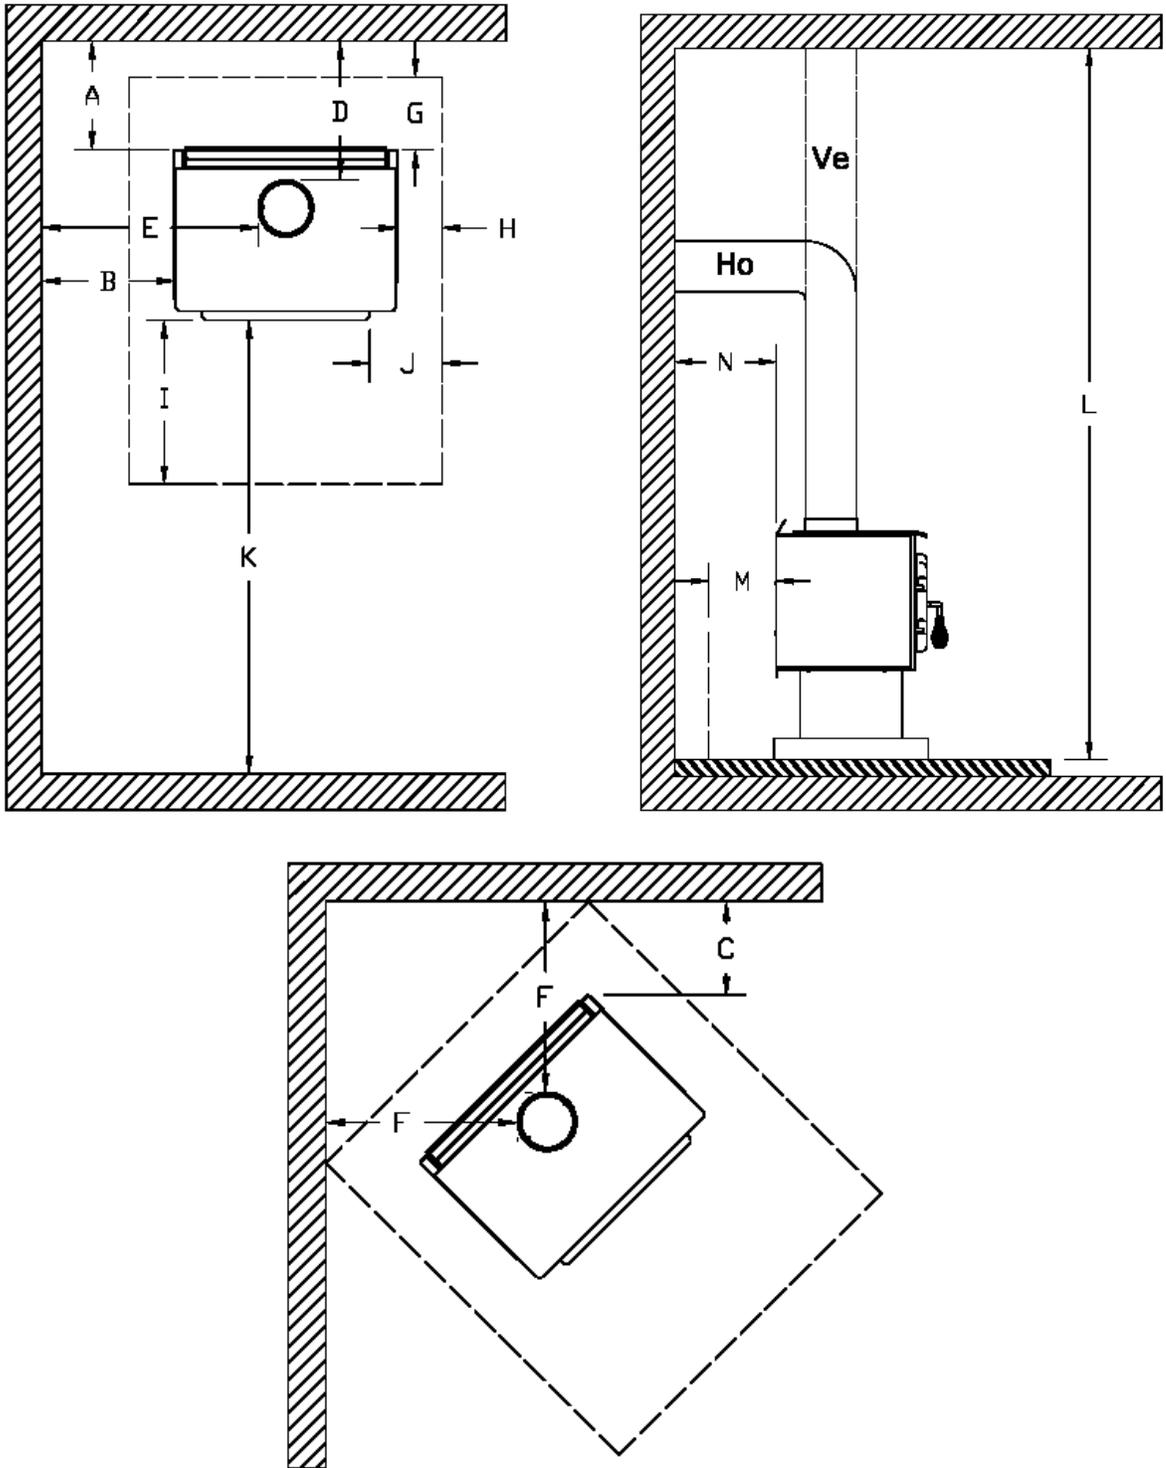

FIGURE 1.1 Clearances to combustibles and floor protection
(see Figure 1.1 to match each letter to a clearance)
If the stove is to be installed on top of a combustible floor, it must be guarded by a non combustible material as shown on Figure 1.1 (see the dotted line area).
2. Mark the location for the floor protection[‡] (if required) as noted in Figure 1.1.
If the stove is to be installed on top of a combustible floor it must be guarded by a non-combustible material extending beneath the heater and to the front and sides as indicated in Figure 1.1, or to the nearest permitted combustible material. Floor protection must extend beneath, and 2” (51 mm) to the sides of a horizontal connector if one has been used.